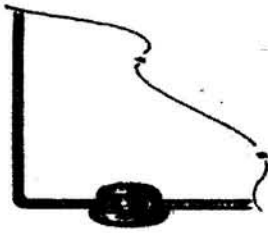

Fig. 10
10) Insert the rubber feet in the openings provided in the bottom of the cabinet as shown. The method is to work the rounded portion of each foot into the interior of the cabinet from the outside, using a small screwdriver. The flat portion should be the actual resting or contact surface. See Insert drawing of Fig. 10.